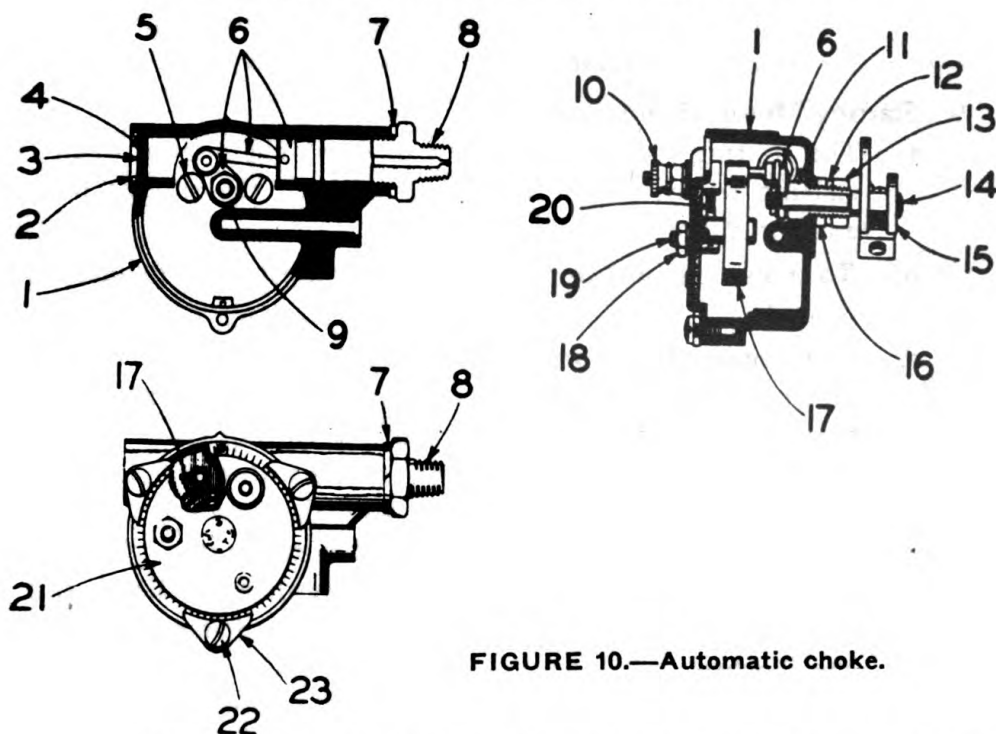

FIGURE 10.—Automatic choke.
8. Automatic Choke (Figure 10)